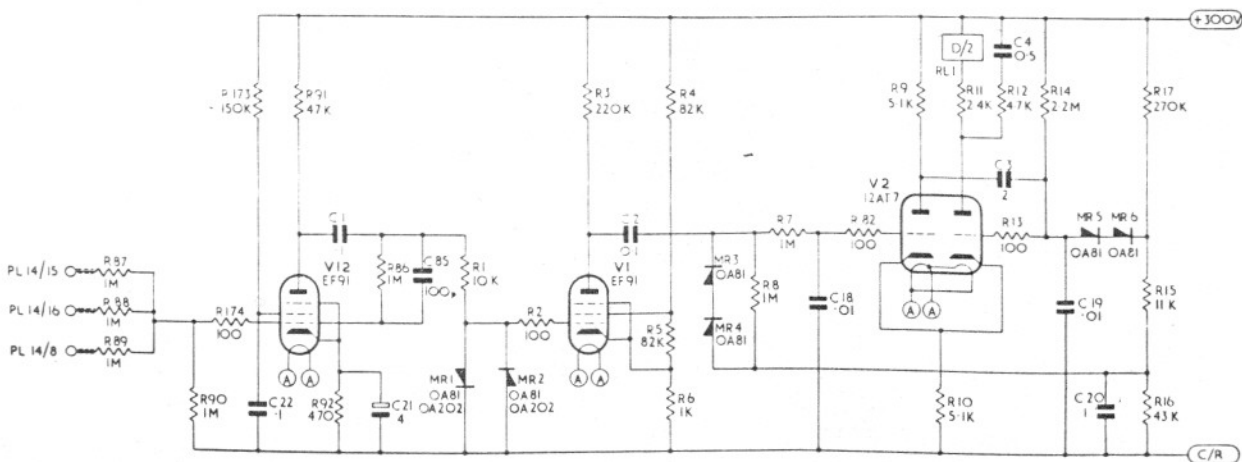

Fig.1 Circuit Diagram - Central Overload Indicator
(Refer Fig. 1)
- (1) Energise via switch-bank SW3B indicator lamp LP3 and relay RLA/2, which switches all operational amplifiers from the COMPUTE to RESET conditions. Refer Fig. 1.